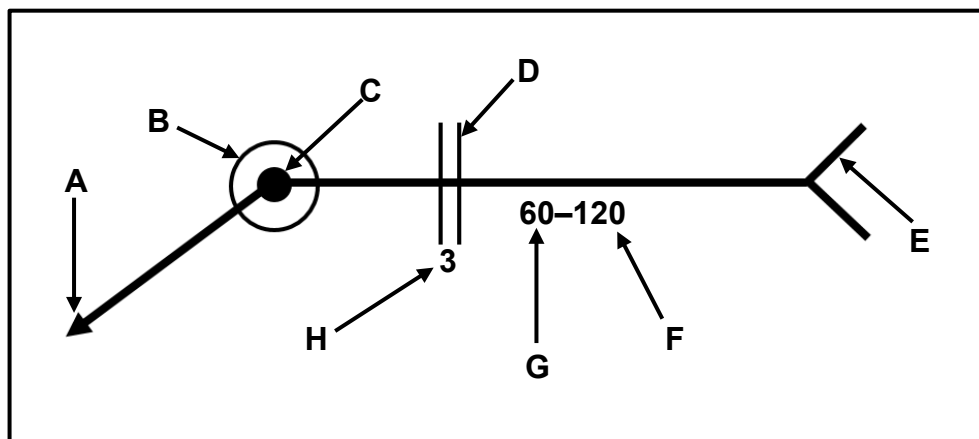

FIGURE 5.5
- 5.5 FIGURE 5.5 below shows a drawing with the relevant information needed to manufacture a component. Identify **A–H**.